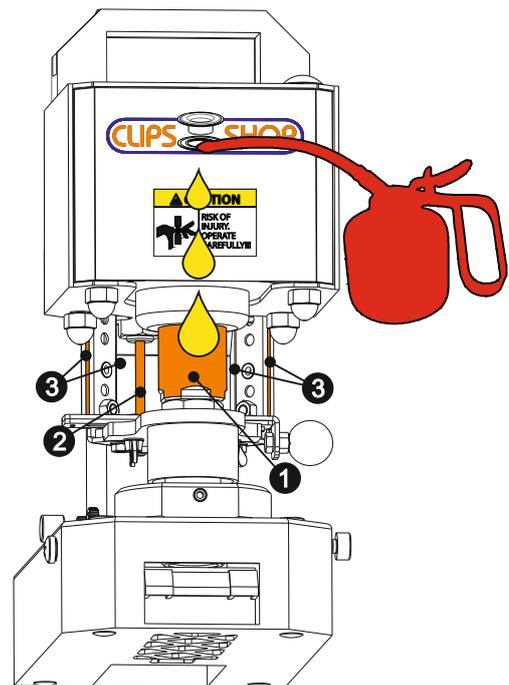

fig. 76
Manually grease the main shaft①, finger guard mechanism shaft② and rails③ with a drip feed lubricator as shown in (fig.76).